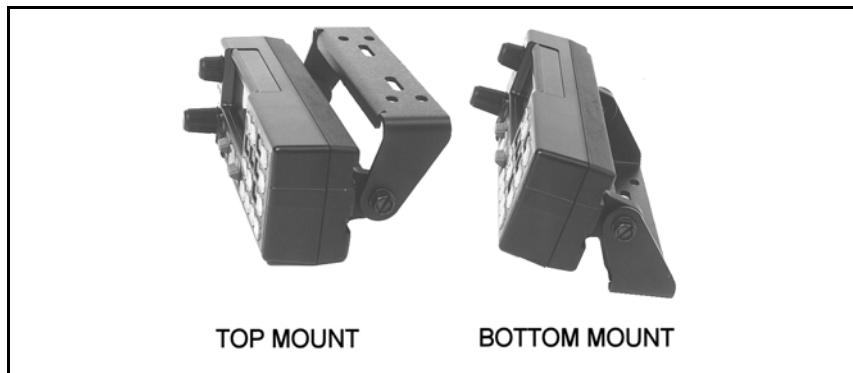
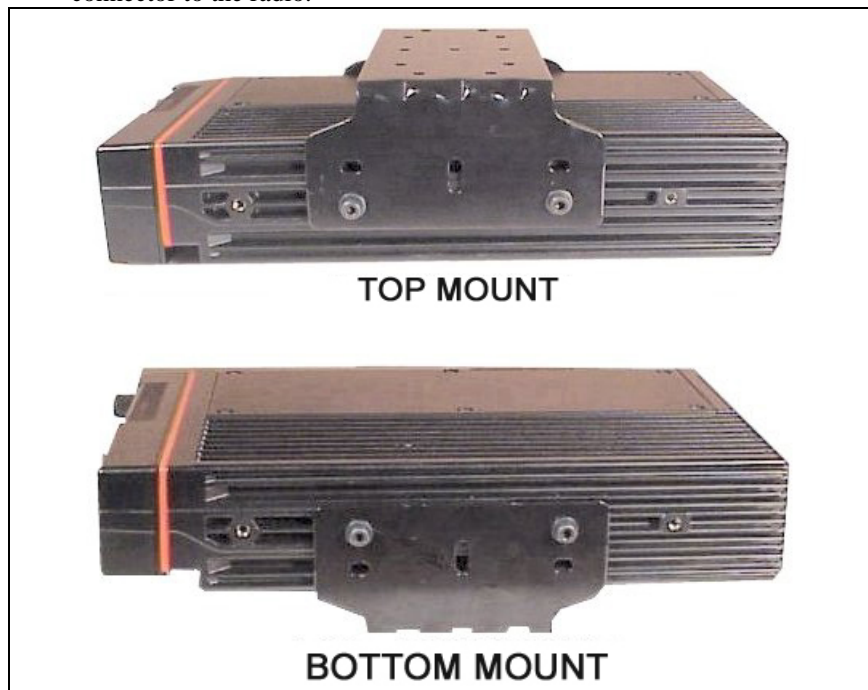
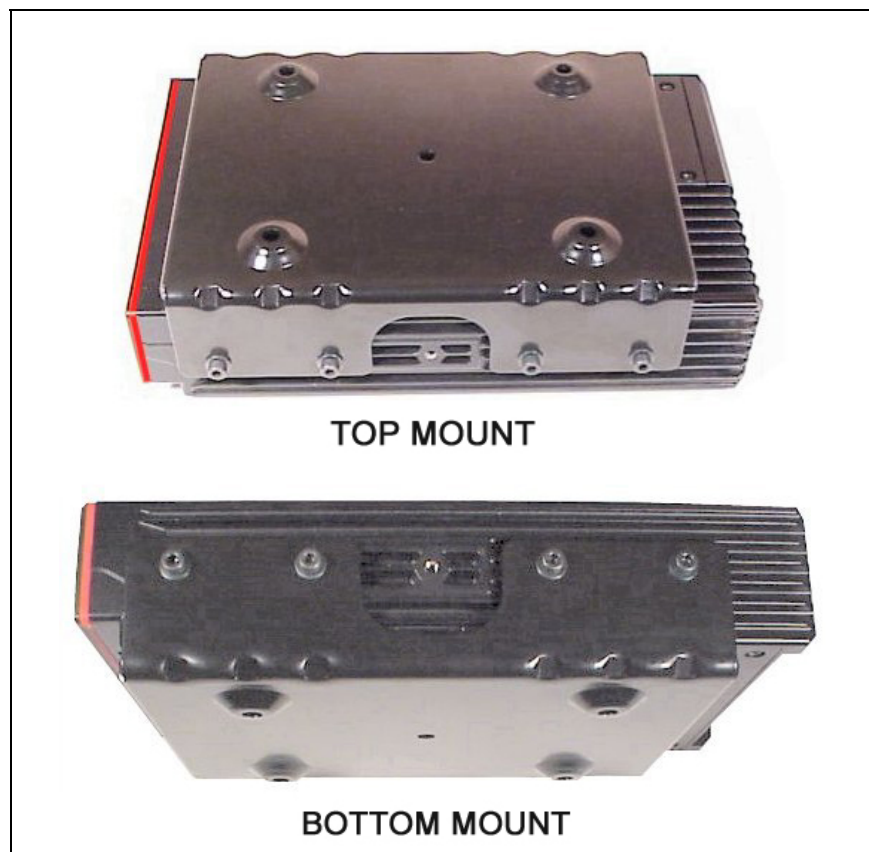

Figure 9-7: Control Unit Mounting Bracket Installation
Figure 9-14: Mounting Bracket Installation (110W VHF Shown)
Figure 9-15: Remote Mounting Bracket Installation (110W VHF Shown)
1. Using the bracket as a template, mark and drill the mounting holes. Be sure to leave enough room at the rear of the control unit for the cable connector and to allow the unit to swivel. Refer to Figure 9-7 for control unit mounting bracket installation.
Typically, the bracket shown in Figure 9-14 is used for Front Mount applications. The bracket can be mounted so that it is either above or below the radio for the user's convenience. The bracket pictured in Figure 9-7 can also be used for Remote Mount applications. The following instructions are for a Front Mount installation using the bracket shown in Figure 9-14.
The bracket shown in Figure 9-15 is used in Remote Mount configurations. In some applications, the bracket shown in Figure 9-14 can also be used for Remote Mount installations. The following instructions are for a Remote Mount installation using the bracket shown in Figure 9-15.
3. Slide the radio unit into the bracket by aligning bracket guides with grooves on each side of radio (rear of radio should be inserted first). Slide radio back until screw holes in front of bracket align with screw holes in side of radio. See Figure 9-15.